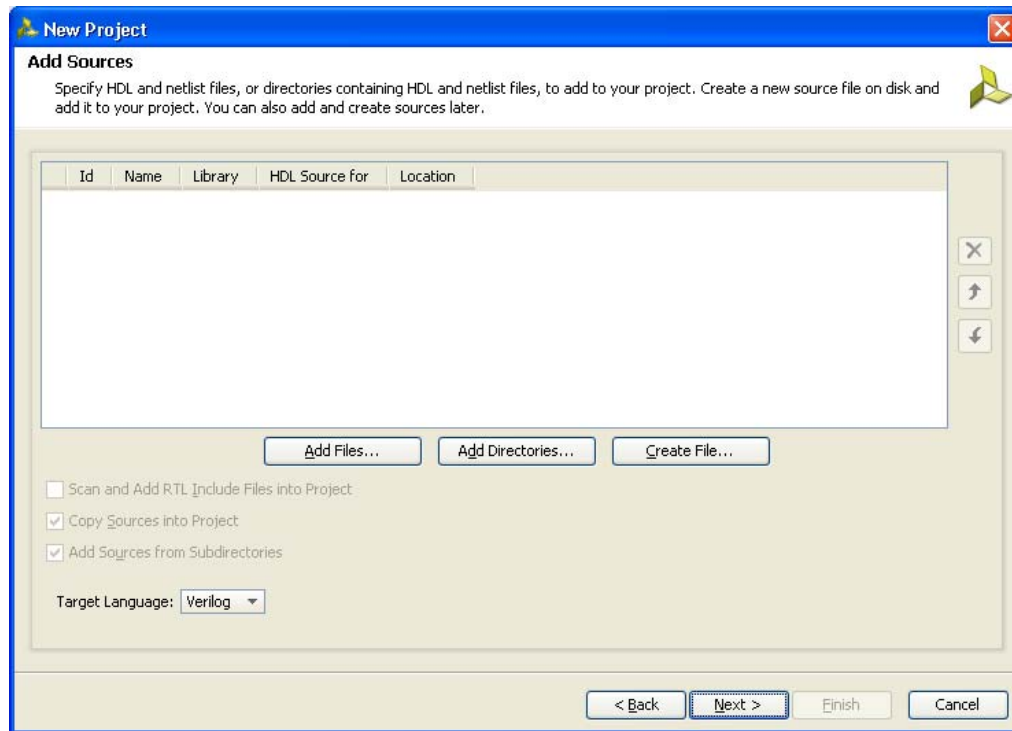

Figure 2-5: Add Sources
5. Click **Next** to proceed to the **Add Sources** page (Figure 2-5). RTL files can be added to the project in this page. If the project was not created earlier, proceed to the next page.